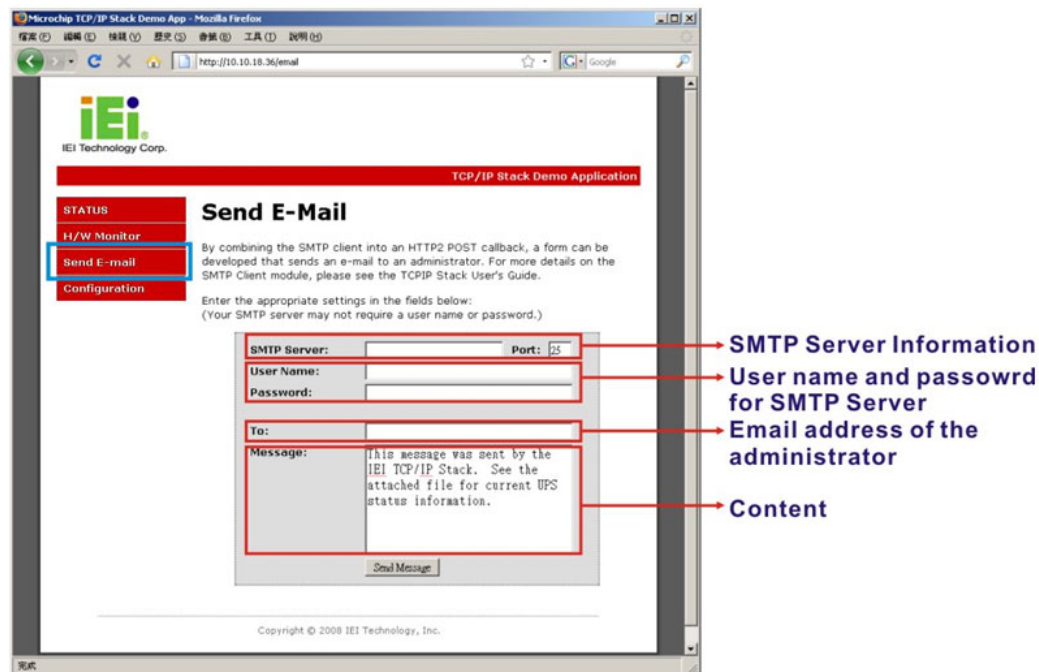

Figure 7-21: Remote Management Web Interface - Send Email
Step 7: To send an email to an administrator through the SMTP server, click **Send E-mail** button on the left. Fill out the information as indicated in **Figure 7-21**. Click the **Send Message** button to send the email.